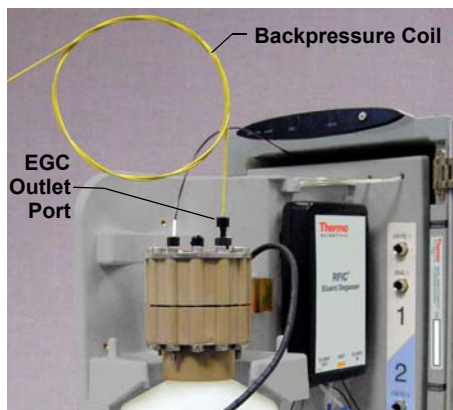

Figure 9-24. *Dionex EGC Outlet Connection for Cartridge Conditioning (Standard-Pressure Analytical Cartridge Shown)*
7. Connect one end of the backpressure coil to the Dionex EGC **OUTLET** port; leave the other end of the coil unconnected (see Figure 9-24). (This is a temporary connection.)